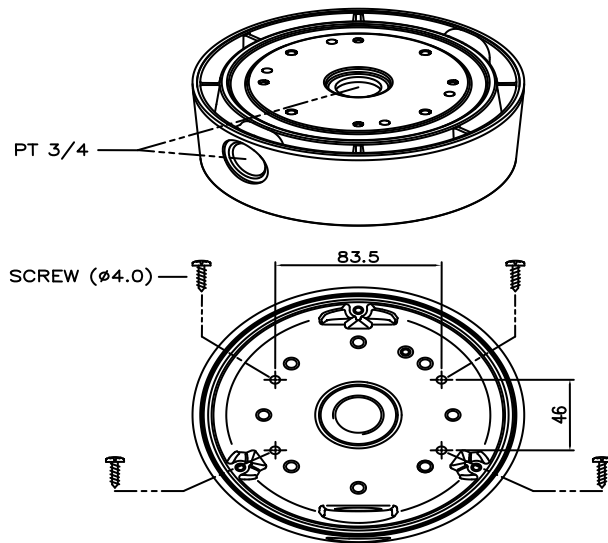

FIG.4
1. Fix the surface mount adaptor with 4pcs of screws on the place where you want to install. (FIG.4)